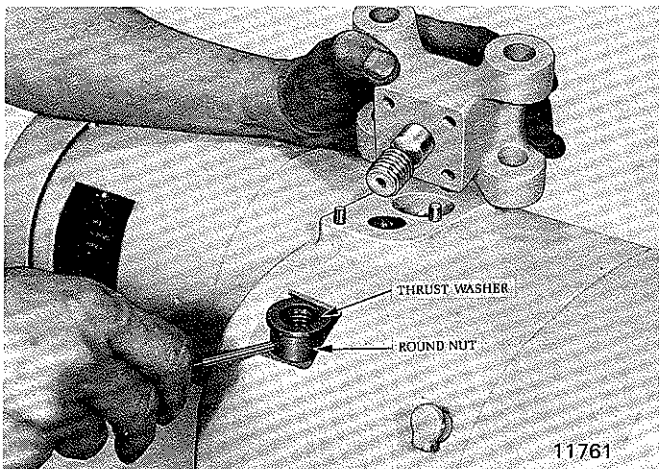

Figure 7-23. Removing Suspension Lug (1/4 Thru 1 Ton Model)
(1) On 1/4 thru 1 ton models drive grooved pin from the round nut inside the hoist frame. Hold round nut from rotating with drift punch thru access hole in side of hoist frame. Unscrew suspension stud assembly by wrenching hex on top of suspension lug (see figure 7-23).
(2) On 2 ton models, remove three hex socket head screws securing the two lock plates to block at top of frame and pull out locks. Remove suspension lug, using an extra thin 1-1/4" open end wrench to unscrew suspension bushing from block. Instructions for removing block from frame are given in paragraph b., (2).